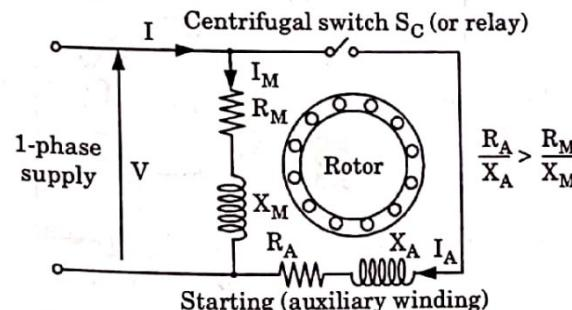

Fig. 4.31.1. Split-phase induction motor connections.
1. Fig. 4.31.1 shows a split-phase induction motor. It is also called a resistance-start motor.